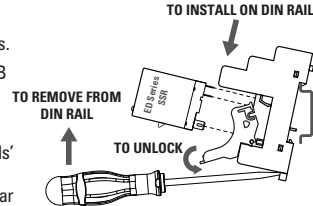

fig. 1 DRSED Socket Mounting/Dismounting
- ◆ Insert ED series SSR into DRSED socket observing terminals' orientation (fig. 1).
- ◆ Install the ED series SSR/ socket on the DIN rail as shown in fig.1
- ◆ To retrieve the ED series SSR from socket, first unlock latching mechanism, as shown in fig.1, then gently pull the SSR.
- ◆ Release DRSED socket from DIN rail using a screwdriver. See fig.1.